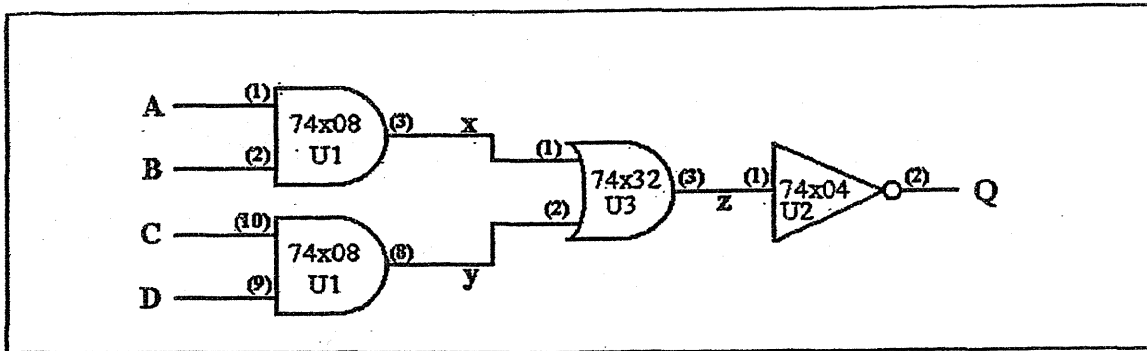

Figure 1.5: Debugging Circuit
- 3) Analyze the circuit given in Figure 1.5. Provide your analysis in a truth table. Include in your truth table all the internal nodes (x, y, and z).
Connect the circuit shown in Figure 1.5. Using an LED, probe each internal node (x, y, and z) and record your results in a truth table. If there are any problems with your circuit record what was wrong and how you were able to fix it.